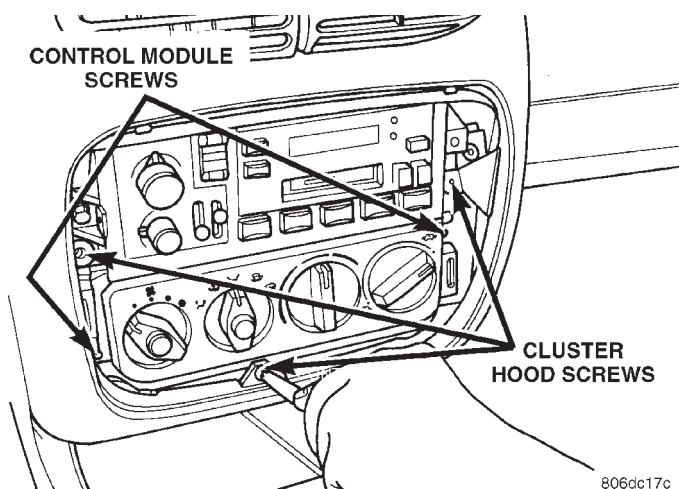
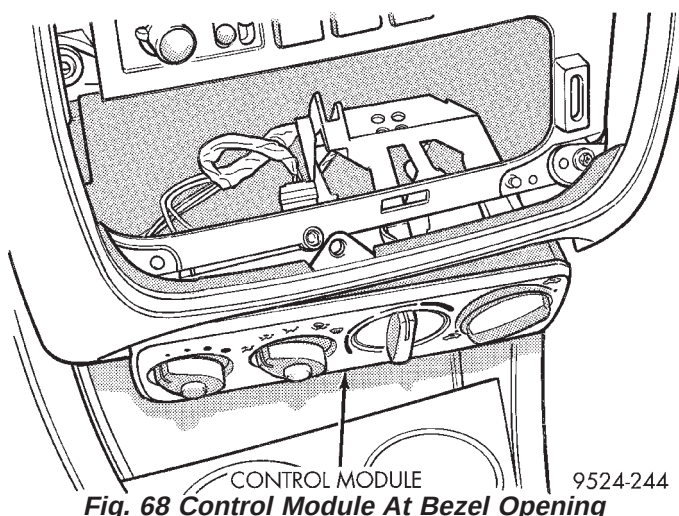

**Fig. 67 Control Module Screws**
**Fig. 68 Control Module At Bezel Opening**
- (3) Remove cluster hood bezel retaining screws in the trim bezel opening (Fig. 67).
- (4) Pry up the cluster hood bezel a few inches to expose the cubby bin/cigar lighter bezel screws.
- (5) Remove the cubby bin/cigar lighter bezel and wiring.
- (6) Remove the control module retaining screws.
- (7) Drop the A/C control module into the cigar lighter/cubby bin bezel opening (Fig. 68). Then disconnect the wiring on the rear of the control module.
- (8) Release the recirculation cable retaining clip from the top of the control module. Retain the clip for future use. Then disconnect the recirculation control cable.
- (7) Remove control module and disconnect the wire connectors.
- (8) Release the temperature control cable retaining clip from the top of the control module. Retain the clip for future use. Then disconnect the temperature control cable.
(8) Remove cluster hood bezel retaining screws in the trim bezel opening (Fig. 67).
(9) Pry up the cluster hood bezel a few inches to expose the cubby bin/cigar lighter bezel screws.
(10) Remove the cubby bin/cigar lighter bezel and wiring.
(11) Remove the control module retaining screws.
(12) Drop the A/C control module into the cigar lighter/cubby bin bezel opening (Fig. 68). Then disconnect the wiring on the rear of the control module.
(13) Release the cable clips from the top of the control module. Retain the clips for future use. Then disconnect the temperature control and recirculation control cables.
(14) Remove the control module.
(15) Remove upper instrument panel bezel.
(16) Remove right and left instrument panel end caps.
(17) Remove left lower knee bolster. Disconnect mode door motor wiring.
(18) Remove right and left interior door post kick panel.
(19) Remove front and rear halves of floor console.
(20) Remove the radio.
(21) Remove right side lower silencer/duct.
(22) Remove glove box assembly.